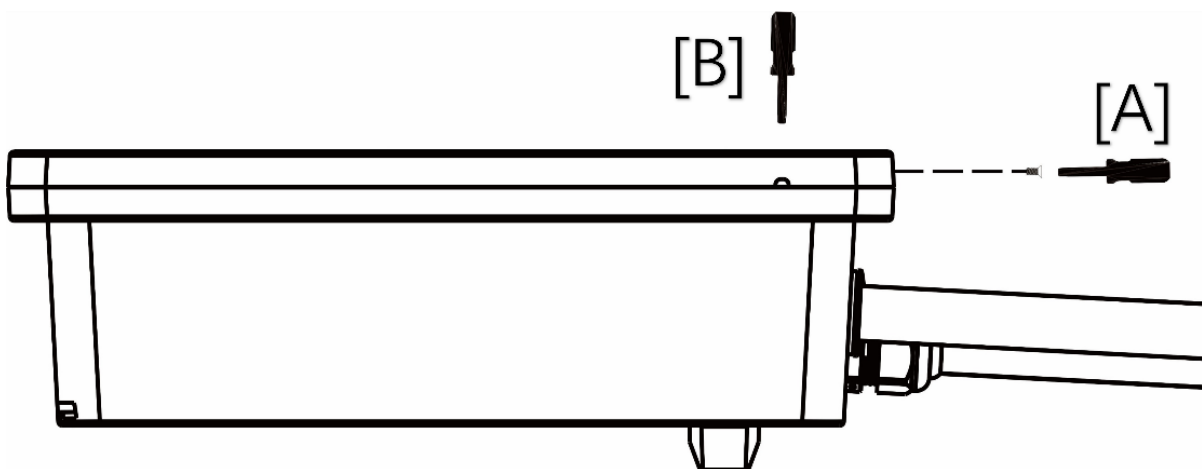
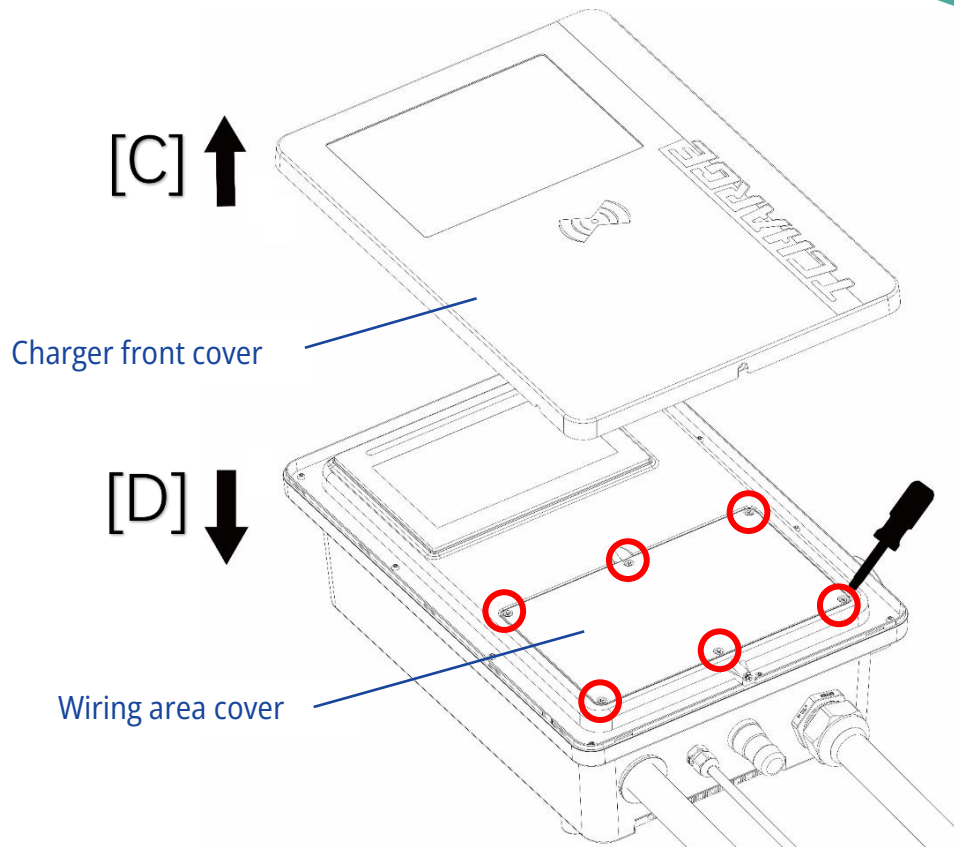

Figure 4.1 Removing the Front Cover of the Charger
Figure 4.2 Removing the Wiring Area Cover of the Charger
- 1) Unfasten the button screw with T10 Torx screwdriver. (See step [A] in **Figure 4.1**)
- 2) Pry off the front cover of the charger. A flat-head screwdriver is desirable for finishing this job, as a notch can be found on the side of the cover. (See step [B] in **Figure 4.1** and step [C] in **Figure 4.2**)
- 3) Unfasten the six screws (circled in **Figure 4.2**) on the front holding the wiring area cover and remove the wiring area cover.